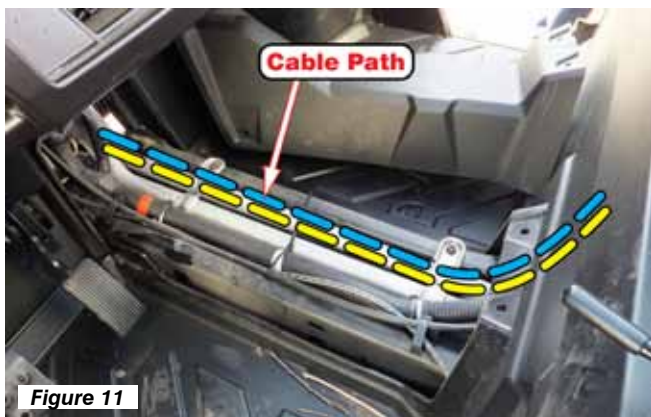

Figure 11
13. Remove plastic shroud covering center floor console by taking out the the 4 plastic rivets (A) shown in Figure 10. Route the longest wires (usually **BLUE & YELLOW**) included with your winch from the battery to the contactor location by passing through the opening to the battery compartment and through the front foot well as shown in Figure 11.